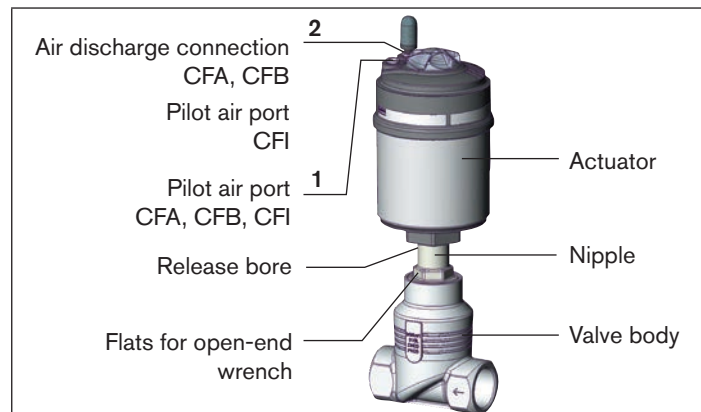

Fig. 24: Designation parts
- **Control function A and I** Pressurize pilot air port **1** with 6 – 8 bar (see “Fig. 24: Designation parts”).
- **Control function B** Pressurize pilot air port **2** with 6 – 8 bar (see “Fig. 24: Designation parts”).